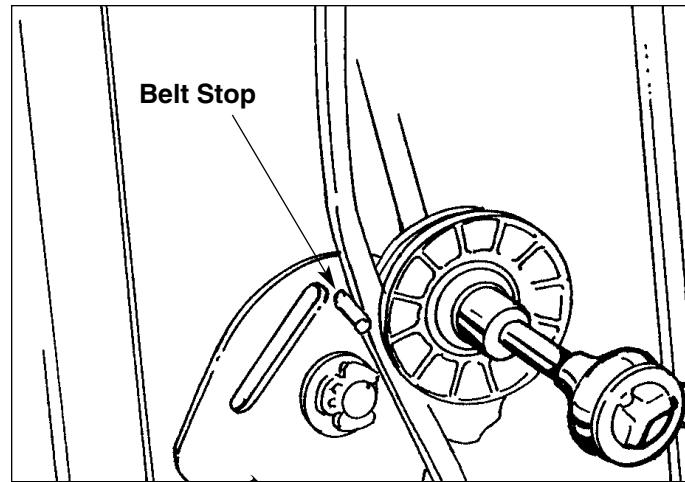

Figure B-19. Loosen V-Pulley
3. See Figure B-19. Note the position of the belt stop relative to the v-pulley, and then loosen the lock nut that secures the v-pulley to the idler. Slide the drive belt out of the gap between the pulley and belt stop.